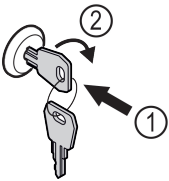

Fig. 57
- ▶ Insert key Fig. 57 (1).
- ▶ Turn key clockwise by 90° Fig. 57 (2).